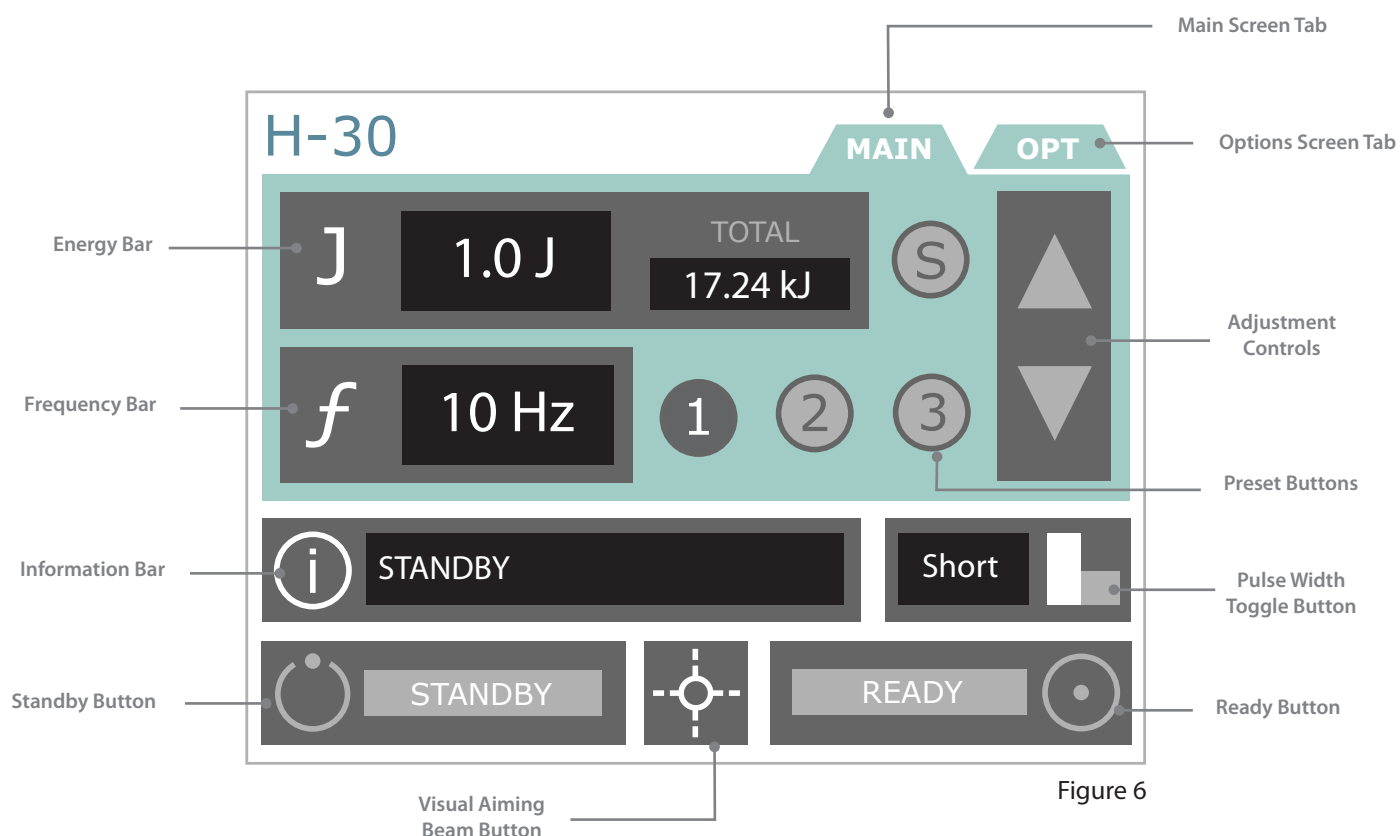

Figure 6
8. Press the **ready** button. (See Figure 6, page 1-32.) The "READY" progress bar will take about two seconds to fill.
7. Press the **ready** button. (See Figure 6, page 1-32.) The "READY" progress bar will take about two seconds to fill.
Main Screen Items (See Figure 6)
(via the toggle button on the main screen) (See Figure 6, page 1-32.)